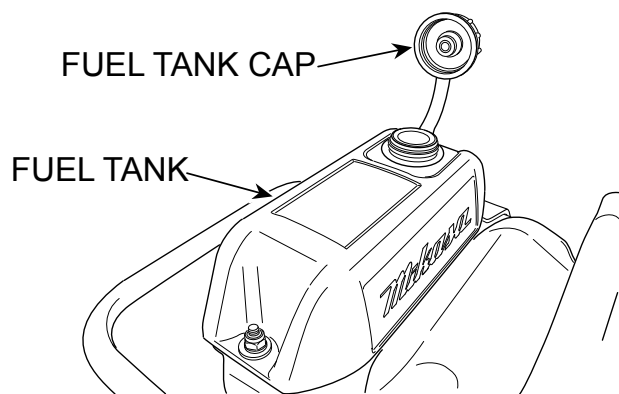
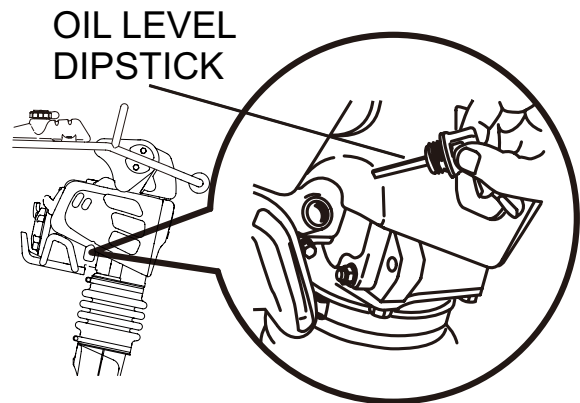

Figure 4. Fuel Tank
Figure 6. Engine Oil Dipstick
1. Fill the fuel tank (Figure 4) with unleaded gasoline. At the same time, check the engine oil and make it a habit to replenish it often (Figure 6).
3. Check the engine oil level and if the engine oil level is low, it should be refilled (Figure 6). Use the proper motor oil as suggested in the Table 4 below.